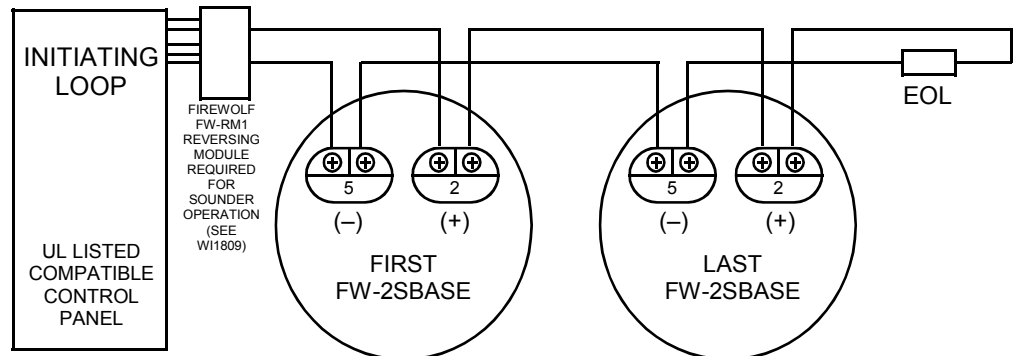

Fig. 1. Two-Wire Multiple-station smoke detectors
- Ensure the end-of-line device shown in Fig. 1 (and 1a) is compatible with the control panel.